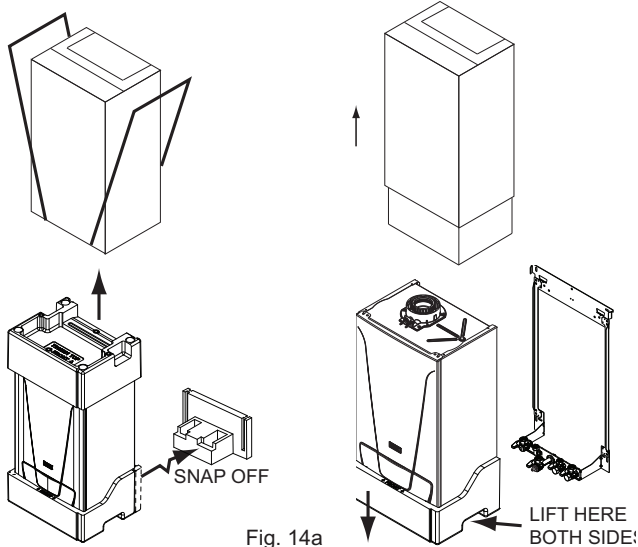

Fig. 14a
2. Follow the procedure on the carton to unpack the boiler or see Fig. 14a.